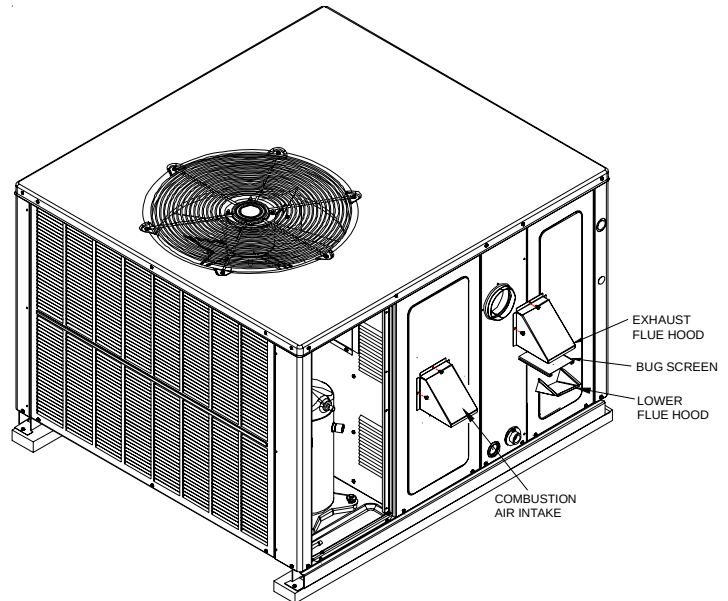

Figure 4 - Final Assembly
6. Using the three screws removed in Step 1, attach the hood (with the opening facing down) over the flue exhaust opening in the utility panel (Figure 4).
8. Reset thermostat to desired setting. *Final assembly should be as shown in Figure 4.*